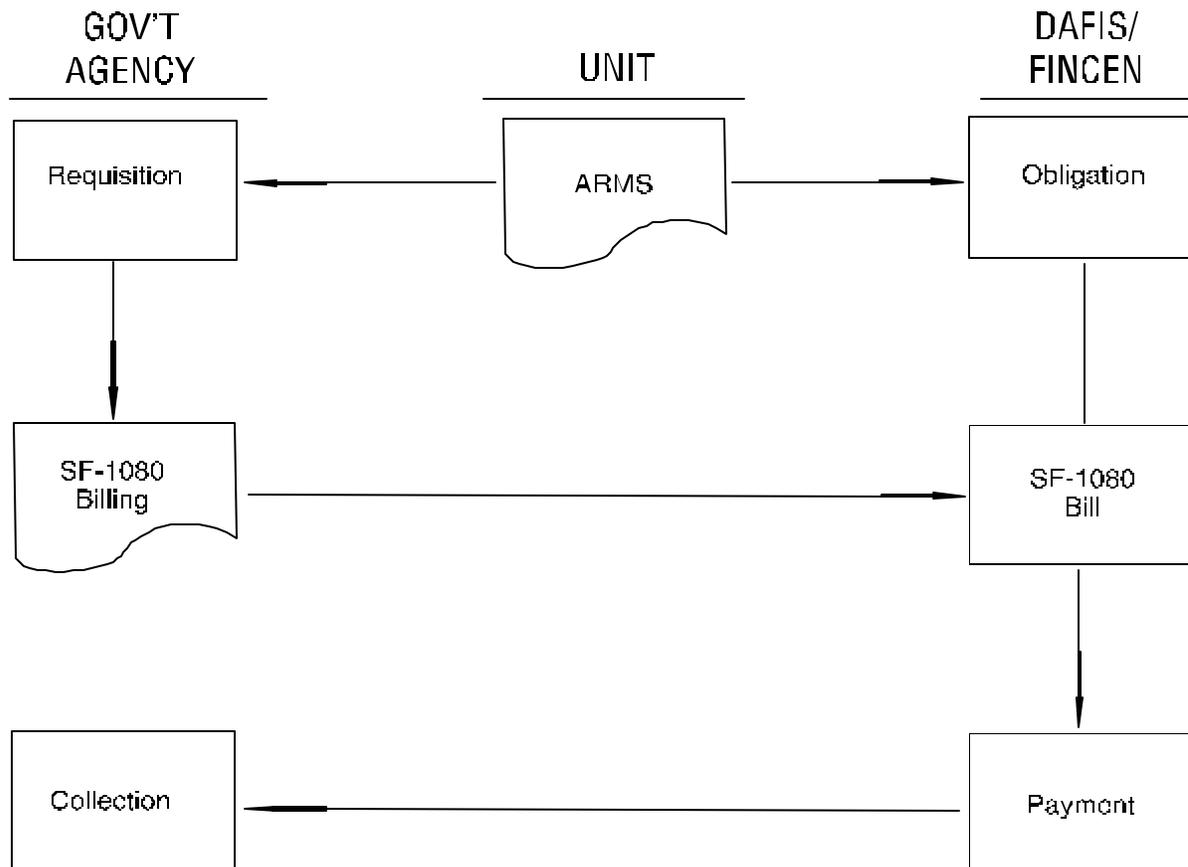

Figure 12E-3 ARMS (MILSTRIP)
- Figure 12E-3 describes the procedures for processing ARMS (MILSTRIP).
10. Sample Forms: See Figures 12E-4 and 12E-5.